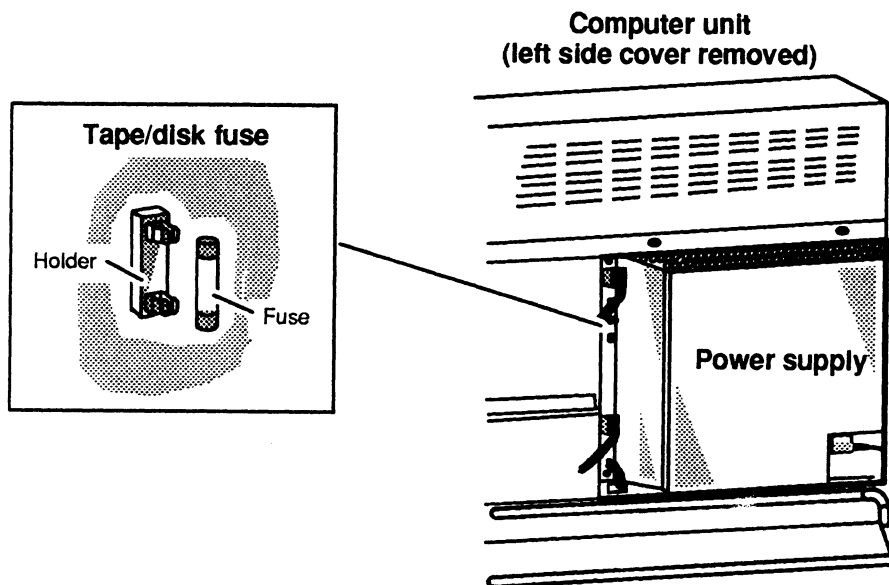

Figure 6-11 Replacing the Tape/Disk Fuse
1. Using a small flat-blade screwdriver, gently lift the fuse, shown in Figure 6-11, until you can pull it out of the holder with your fingers. Remove the fuse from the holder.